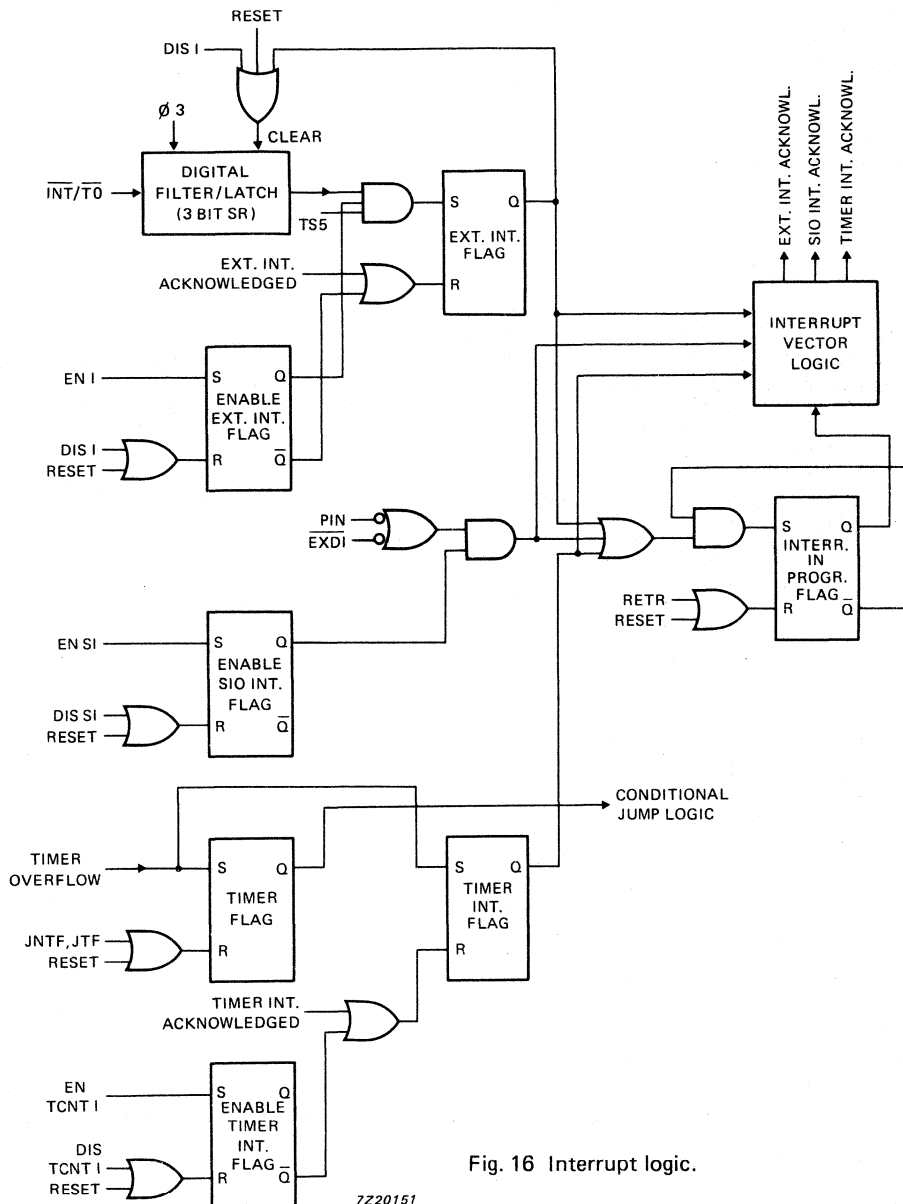

Fig. 16 Interrupt logic.
**Interrupts** (see Fig. 16)
**Notes to figure 16**